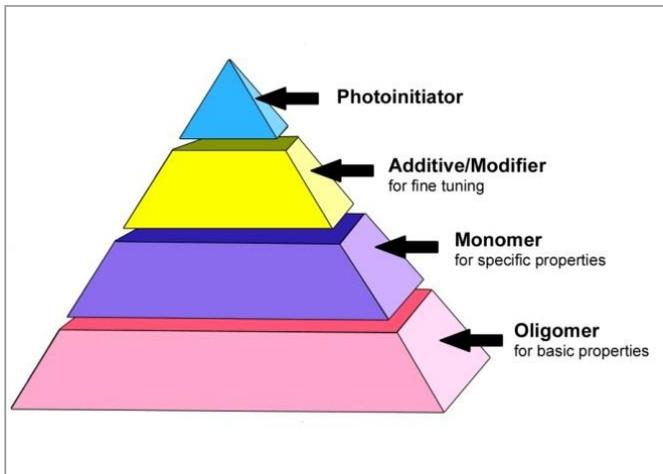
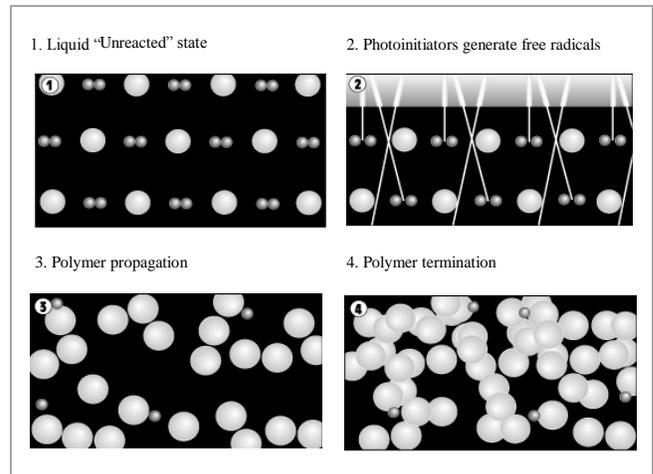

Figure 1. LCM Composition
Figure 2. Polymerization Process
Light-curable masks (LCM) are typically comprised of five basic elements: the photoinitiator, additive, modifier, monomer, and oligomer (Figure 1). The ultraviolet (UV) light-curing process begins when the photoinitiator in the LCM is exposed to a light-energy source of the proper spectral output. As illustrated in Figure 2, the molecules of the LCM split into free radicals (initiation), which then commence to form polymer chains with the monomers, oligomers, and other ingredients (propagation), until all ingredients have formed a solid polymer (termination). Upon sufficient exposure to light, the liquid LCM is polymerized, or cured.